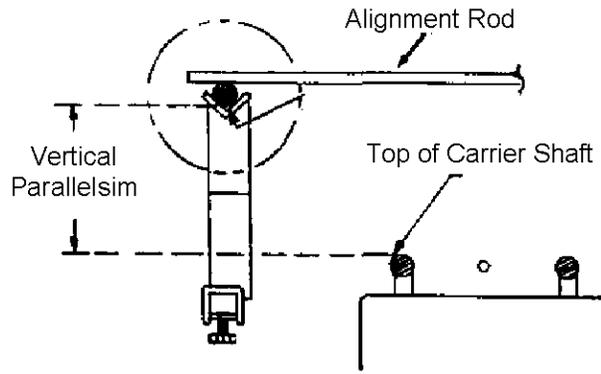

FIG. 43
- B. Raise the indicator slide casting on the vertical support so that the indicator rod can be extended over the center shaft of the reel. See FIG.43 and 44.